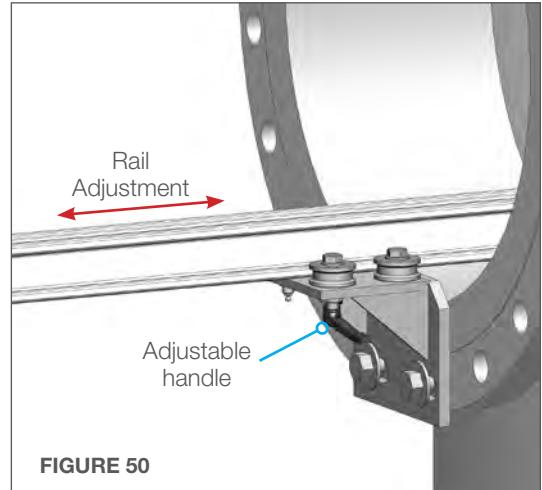

FIGURE 50
2. Loosening the Adjustable Handle on the Trolley will allow for adjustment of the Rail in and out of the dome. **(Figure 50)**